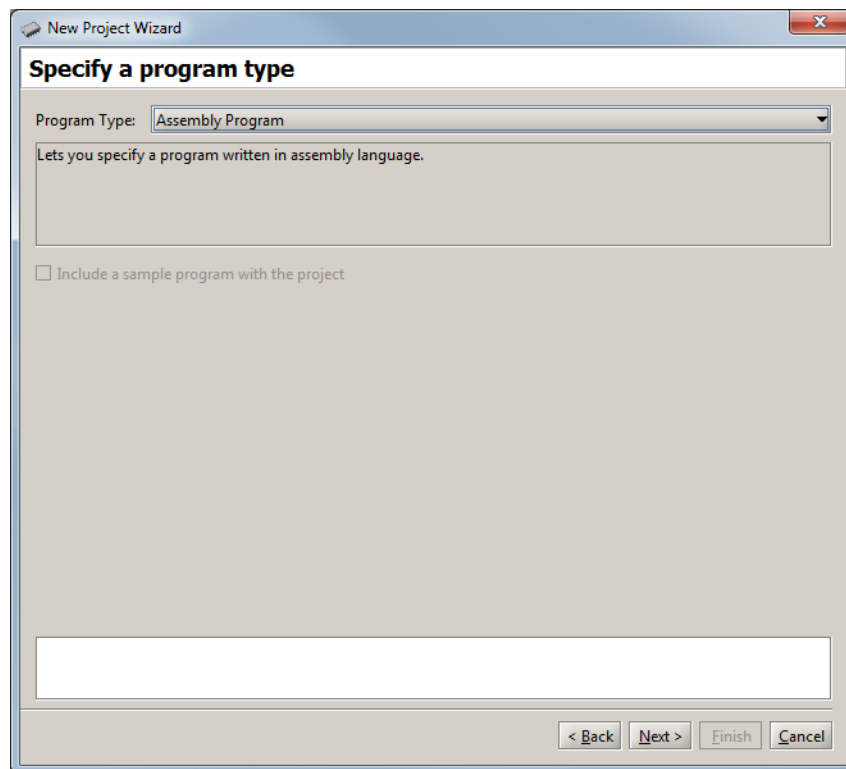

Figure 29. Specification of the program type.
4. If you wish to use a Nios II assembly-language application program, select **Assembly Program** as the program type from the drop-down menu. If you wish to use a C-language program, select **C Program**. Click **Next**, leading to Figure 29.